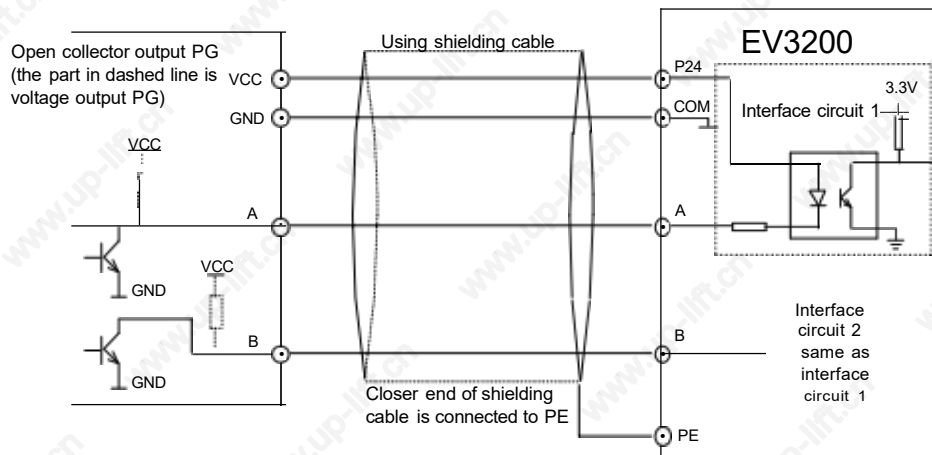

Figure 3-7 Wiring diagram of open-collector output PG
1. The wiring of open-collector output PG is shown in Figure 3-7.